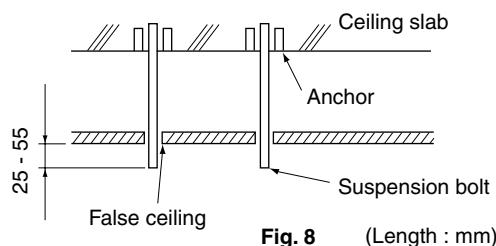

Fig. 8 (Length : mm)
- Adjust the distance from the unit to the ceiling slab beforehand. **(Refer to Fig. 8)**